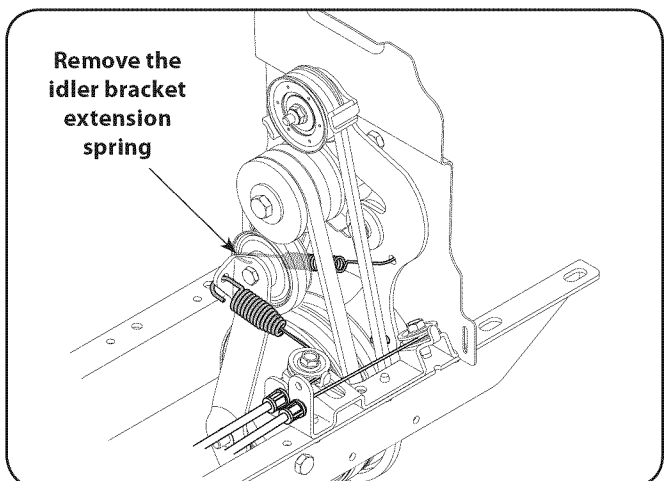

Figure 8-3
4. Remove the idler bracket extension spring, as pointed out in Fig. 8-3. It is recommended to use a pair of needle-nosed pliers, and grab the spring by the end that hooks over the frame. simply grab it and pull it away from the frame, then up wards and carefully relieve the tension of the spring.